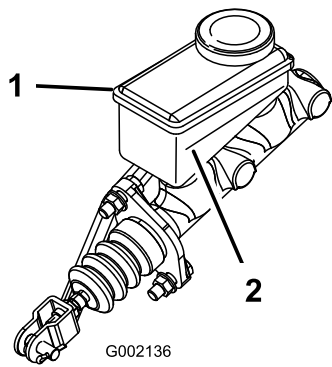

Figure 66
5. Look at the outline of the fluid level at the side of the reservoir (Figure 66).
- B. Add DOT 3 brake fluid to the reservoir until the fluid level is above the Minimum line (Figure 66).